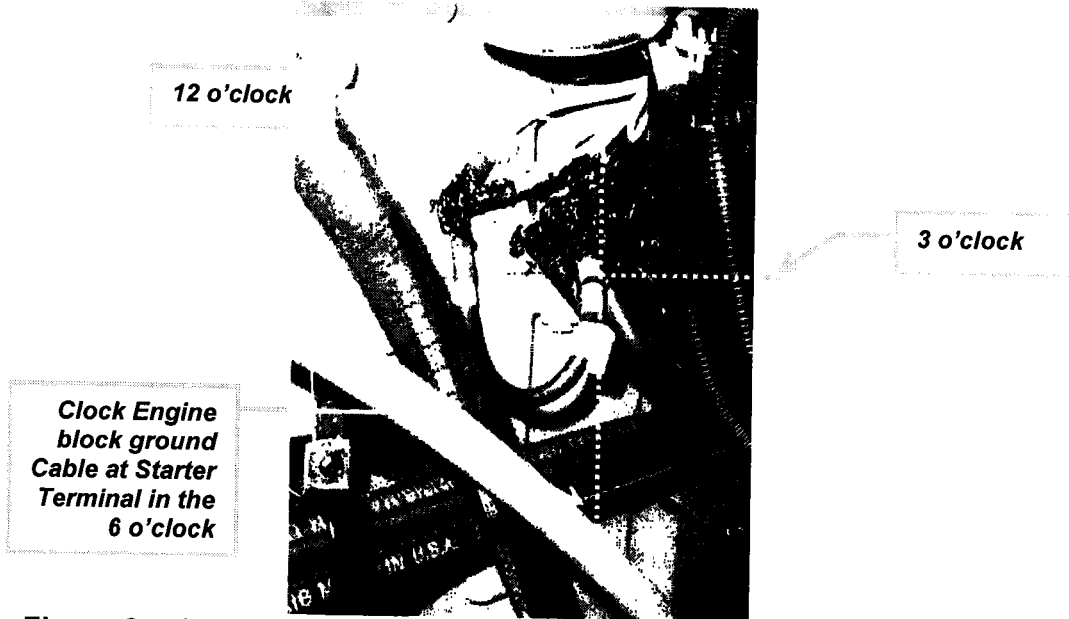

Figure 8 – Correct CAT (non-C15) engine block ground cable routing.
TO PREVENT CHAFING OF THE POSITIVE CABLES AGAINST THE ENGINE BLOCK GROUND CABLE (SEE FIGURE 7), PLEASE ENSURE ENGINE BLOCK GROUND CABLE IS CLOKED IN THE DOWNWARD (6 O'CLOCK) POSITION, SEE FIGURE 8.
- ***If rubbing or chafing of the ENGINE GROUND cable against the Battery Cables is present***, rotate and tighten the new ground cable on the starter terminal so it is straight down (6 o'clock position) and *not* contacting the starter positive cables, see figure 8.